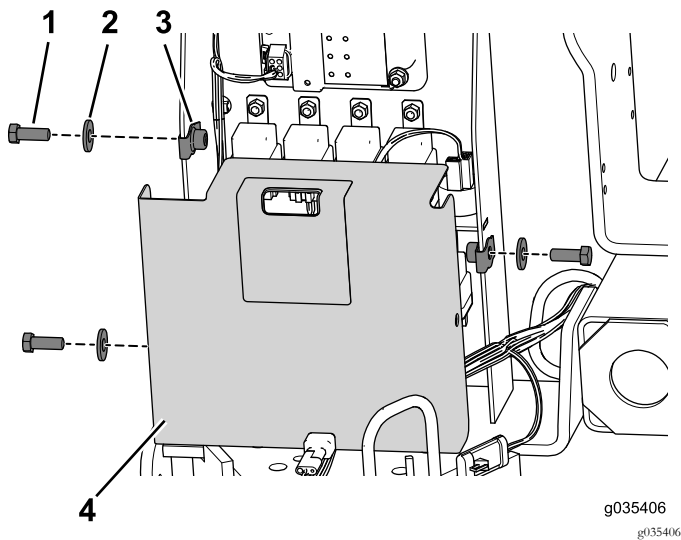

Figure 1
1. Remove the hardware securing the compartment cover and set it aside (Figure 1).